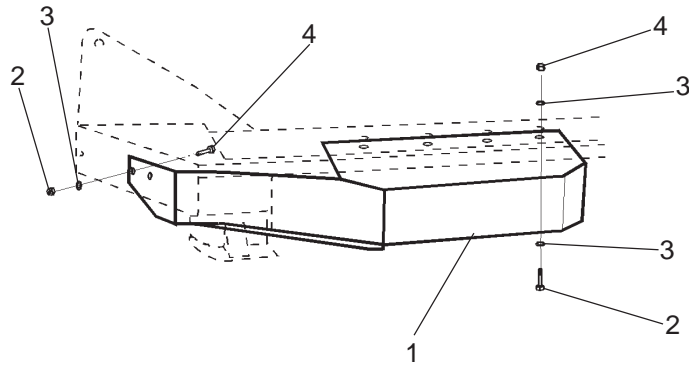
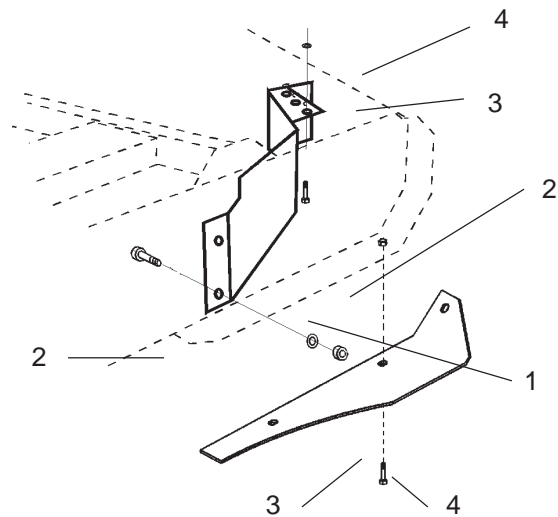

FIGURE 13. Wing Baffle Attachment
FIGURE 12. Center Baffle Attachment
The Center Baffle (1) is attached to the left side of the Center Section with Bolts (2), Washers (3) and Nuts (4) as shown in **FIGURE 12**. The Wing Baffles (1) are attached to the wings with Bolts (2), Washers (3) and Nuts (4) as shown in **FIGURE 13**.